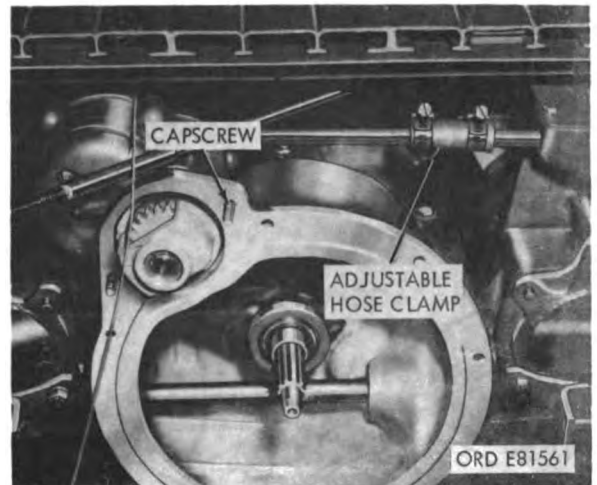

Figure 2-15. Location of adjustable hose clamps.
*f. Loosen two adjustable hose clamps (fig. 2-15) and slide hose toward recoil starter, exposing rear starter cable.*